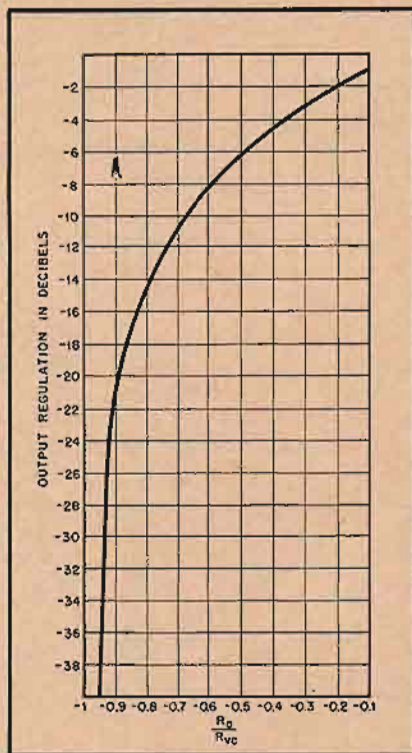

Fig. 4. Curve showing output regulation for varying ratios of amplifier output impedance to speaker voice-coil impedance.
But additional figures on this same subject are of interest. How far is it practical to go? How well can a speaker be damped with dynamic negative feedback? The graph of Fig. 4 was prepared by
The graph of Fig. 4 and Eq. (1) are additionally useful to the designer for measuring the dynamic negative feedback caused by a particular value of  $R_f$  in Fig. 2. Each time the value is changed, the open-circuit and loaded output voltages of the amplifier may be measured and converted to decibels. Reference to the graph will then indicate what portion of the speaker's internal resistance has been cancelled. Knowledge of the speaker's resistance will, of course, indicate the exact value in ohms of the internal resistance of the amplifier.